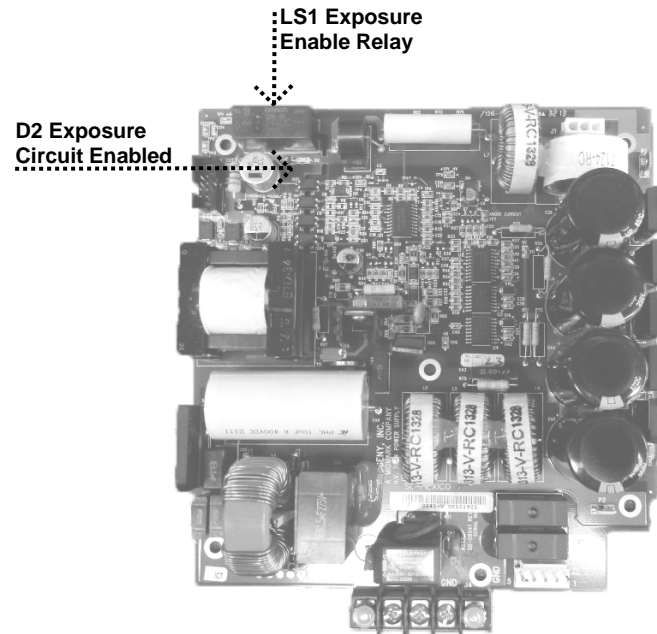

Figure 63
2. If the Operator Display indicator sounds, but the Logic Board indicator does not activate, observe LED D2 on the Power Supply Board, and listen for the relay LS1 to activate on this same board (*Figure 63*). LED D2 should illuminate during the exposure request. If not, inspect the condition of the ribbon cable between the Power Supply and the Logic Boards. If the ribbon cable is acceptable, replace the Logic Board.